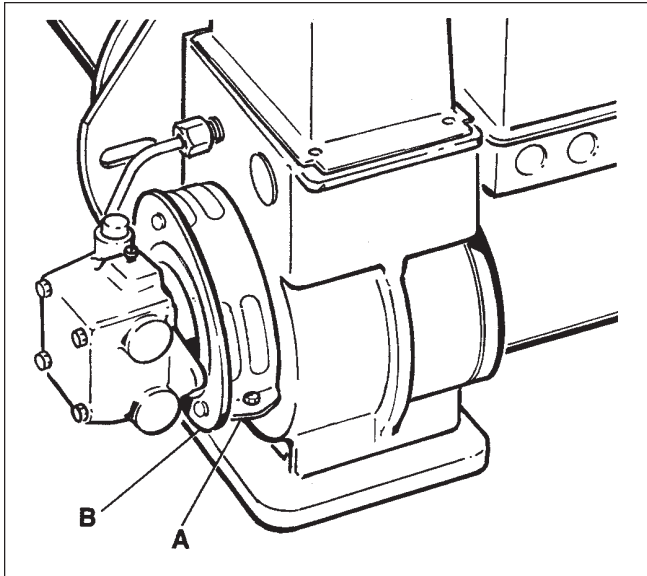

Figure 18. Initial Air Adjustment.
Check the initial air adjustment (see Fig. 18). Normally, the bulk air band (A) and the end air shutter (B) should be partially open. It is factory set for both indoor and outdoor installations, but check it again after completing the installation by measuring the CO2. It should be 12% CO2 with zero smoke. Set a barometric draft control to give .02" to .03" W.C. draft below the draft control when the heater is installed indoors.